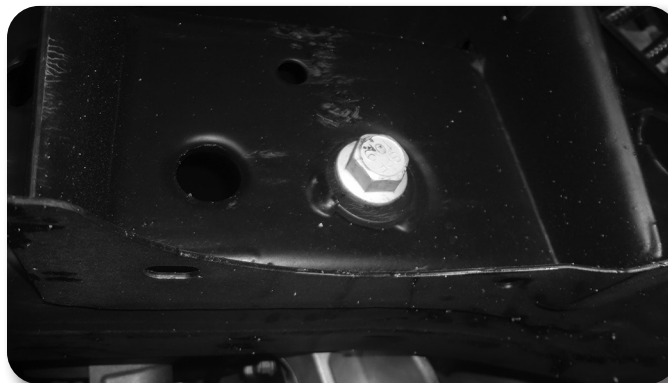

Figure 18
25. Support the front differential with an appropriate jack. Remove the driver's side differential mounting bolts Fig. 18. Save mounting bolt hardware.